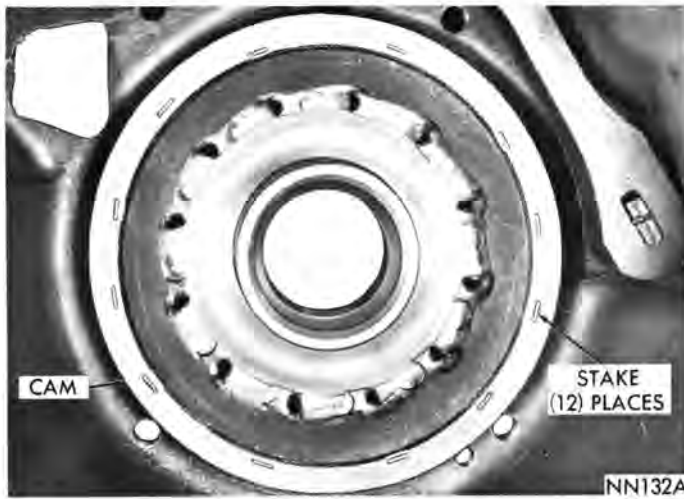

Fig. 93—Overrunning Clutch Cam Staked (A-727)
(7) Remove cam installing tool. Install and tighten support retaining screws to 140 inch-pounds. Stake the case around cam in twelve places with a blunt chisel (Fig. 93).